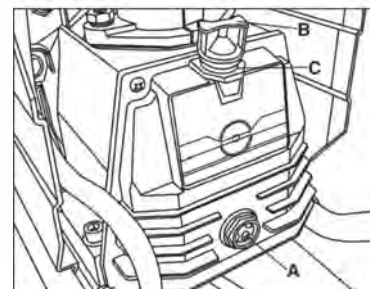

FIGURE 8
To change oil, oil must be drained from the crankcase by removing oil sight glass (A) Fig.8. Drain oil into a small receptacle and replace oil sight glass. To fill the crank case with oil, first unscrew and remove oil breather cap (B), **pour approximately 300ml of air compressor oil (SAE 10W30 or SAE 10W20 non detergent oil)** into crankcase oil opening (C) until the oil level reaches the center red dot on the oil sight glass. Retighten oil breather cap (B).